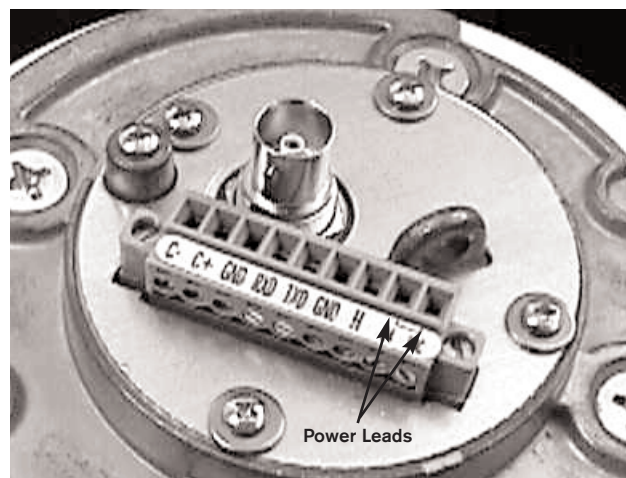

Figure 2: Connector Plate
7. Make the electrical connection to the supplied mating connector. (See FIGURE 2).
3. Make the electrical connection to the supplied mating connector. (See FIGURE 2).